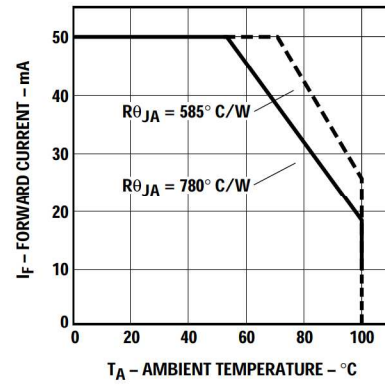

Figure 4. Maximum Forward Current vs. Ambient Temperature. Derating Based on $T_{JMAX} = 130^\circ C$.
1. Derate linearly as shown in Figure 4.